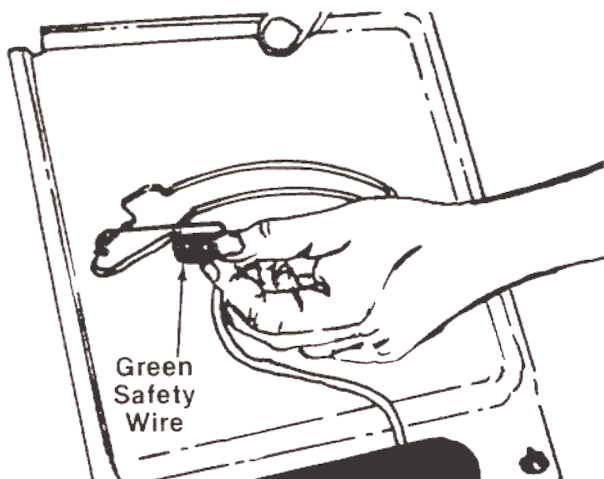

FIGURE 6.
3. Lift the transmission cover. Unplug the green safety wire from beneath the transmission —cover. See figure 6. Remove transmission cover.
9. Plug the green safety wire into the switch beneath the transmission cover. Refer to figure 6. Replace the transmission cover and gear shift knob.